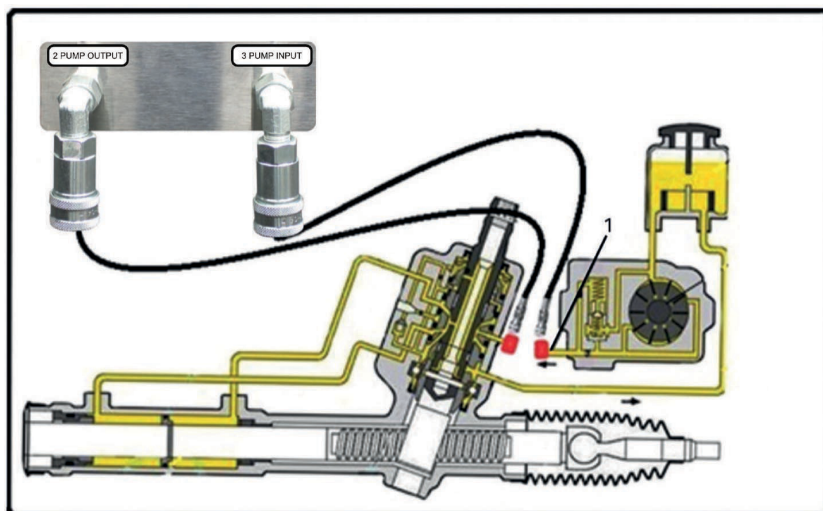

Figure 6. Power steering pump connection:
1. Connect the bench to the pump as indicated in Figure 6: